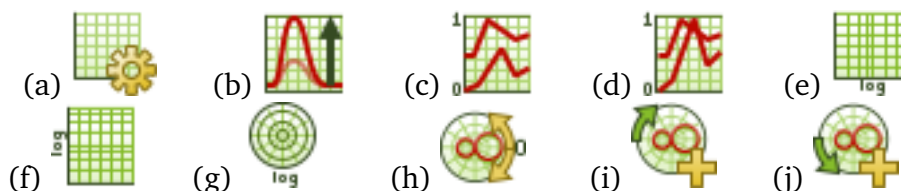

Figure 9-2: Axes group buttons
The Axes group The Axes group is available for Cartesian and polar graphs. Functions that are available here include setting the data ranges (Figure 9-2 a; see also Section 9.2.8), normalising the graph (Figure 9-2 b, c, d), changing an axis scaling to a logarithmic scale (Figure 9-2 e, f, g) or (in the case of polar graphs) changing the orientation of the graph (Figure 9-2 h, i). To normalise the data on a graph, select the *Normalise* (Figure 9-2 b) button. One of two normalisation modes can then be utilised:
- *Normalise to maximum of all traces* (Figure 9-2 c): This setting will look at all of the traces that are visible on a graph to determine the maximum value between them. All traces will then be normalised to that value, meaning that all of the traces will maintain their relative scaling to one another.
- *Normalise to maximum of individual traces* (Figure 9-2 d): This setting will look at each trace in isolation. The maximum value of that trace will be used for normalisation. The effect is that every trace will have an absolute maximum of 1.
Polar graphs are divided into 360° steps. The position of the 0° position can be set by using the *Orientation* (h) options. The orientation can be set to North, South, East or West. In addition, the direction in which the angle grows can be set to either a *Clockwise* (Figure 9-2 i) or *Counter-clockwise* (Figure 9-2 j) direction. The direction of growth is only enabled if the orientation has been set manually (Figure 9-2 h).